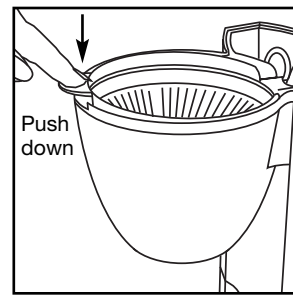

FIG. 8
3. Make sure the filter holder (Fig. 1,C) sits firmly in the Filter Holder Housing (Fig. 1,F). Push the tab of the filter holder down (Fig. 8) to make sure the filter holder sits firmly in the Filter Holder housing. If the filter holder is not snapped into the housing, the drip stop in the filter holder might not open during brewing and hot water and grinds could overflow and leak from the machine.